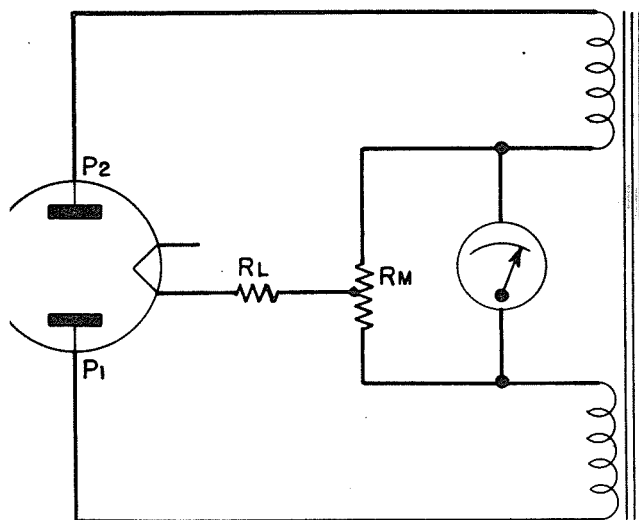

Figure 2-1. Rectifier Diagram Illustrating Theory
2. THEORY OF OPERATION (See figures 2-1 and 2-2)
a. Examine first the simple full-wave rectifier circuit shown in figure 2-1. The two power transformer secondary windings have their inner ends connected to a direct-current milliammeter. Across the milliammeter is a center-tapped resistor R_M . The load is shown as a resistance R_L , connected between the center tap and the rectifier filament as in any full-wave rectifier circuit. When rectifier plate P_2 is positive, electron flow is through the upper half of R_M , and the meter tends to deflect in one direction. When P_1 is positive, electron flow is through the lower half of R_M , and the meter tends to deflect in the other direction. With the load resistance fixed and equal forces acting on the meter in both cases, the meter stays at zero because it cannot follow variations at the power line frequency.